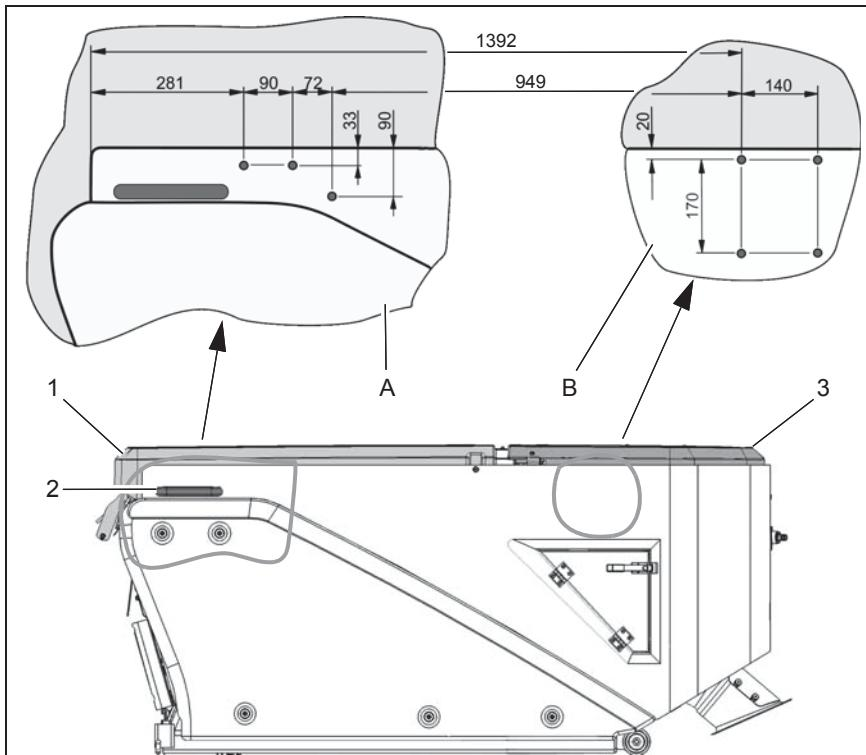

Fig.2
1. Open the lid (Fig. 2/1) of the dirt hopper.
2. Remove the handle (Fig. 2/2).
3. Drill the three holes D = 9 mm for the left holder according to sketch (Fig. 2/A).
4. Close the lid (Fig. 2/1) again and open the maintenance flap (Fig. 2/3) for the suction fan.
5. Drill the four holes D = 9 mm for the right side holder according to sketch (Fig. 2/B).